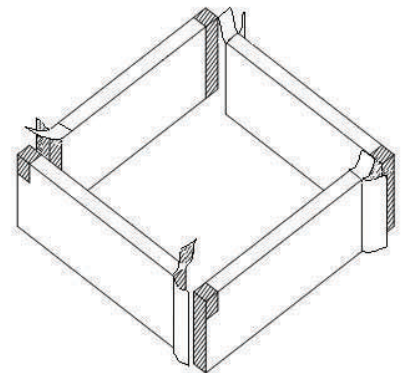

Figure 1
- Position the four walls as shown in figure 1 with the black edge on the floor.